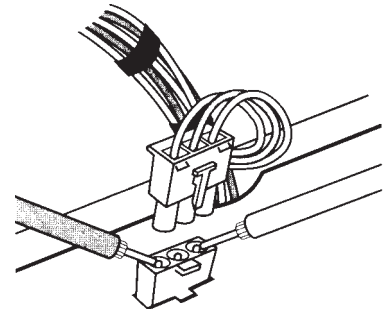

Figure 13
- c. Measure continuity between the outside pins on the 3-pin connector socket with an ohm meter. (Fig. 13)